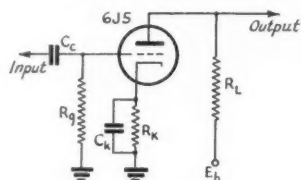
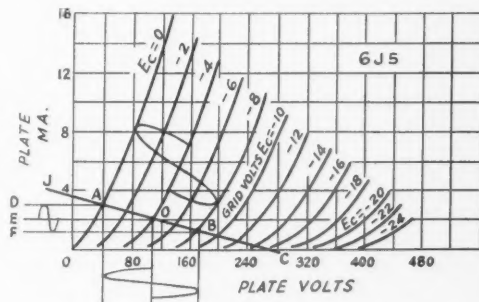

Fig. 1—Triode resistance-coupled amplifier circuit.
Fig. 2—Family of plate-voltage vs. plate-current characteristic curves for the Type 6J5 triode tube.
THE design of a resistance-coupled amplifier is a relatively simple operation involving considerably less formula juggling and mental exertion than computing all the deductions subtracted from your pay check these days. The information given in previous installments of this series, plus some added information on the practical use of vacuum-tube characteristic curves, will permit the ready calculation of all required design values for the resistance-coupled amplifier shown in Fig. 1.
As an illustration of the method used in arriving at the first of these objectives, let us assume that the maximum peak-to-peak signal delivered to the grid of the amplifier of Fig. 1 from the preceding stage is 8 volts. It is necessary to place the load line on the curves in such a position as to permit the signal to swing over the linear portion of the characteristic curves. Therefore the signal must not swing into the curved portions at low plate-current values, nor must it swing into the positive grid distortion region. In the case of the 6J5 triode curves the least value of bias that can
1) What should the total plate load resistance,  $R_p$ , be for maximum undistorted voltage gain in the amplifier of Fig. 1, using the characteristics shown in Fig. 2?
From Fig. 2 we find that the slope of the load line is
By dropping perpendicular lines to the coordinates from the points A, O, and B in Fig. 2, which represent the average bias and the extremities of grid-signal swing, the peak-to-peak plate voltage and current can be determined by simple subtraction.